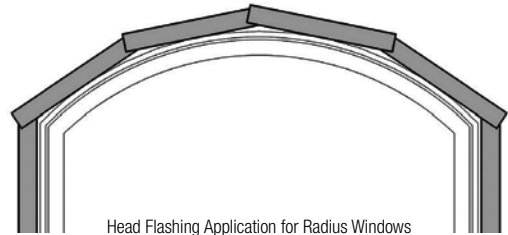
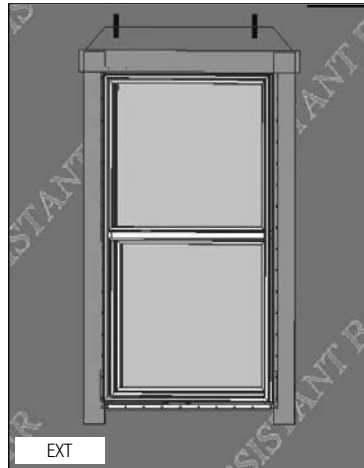

FIG. 17
FIG. 16
- C) Cut and apply head flashing. The head flashing should run slightly past the edge of the side flashing as shown in Fig. 16. For radius windows, refer to Fig 17.